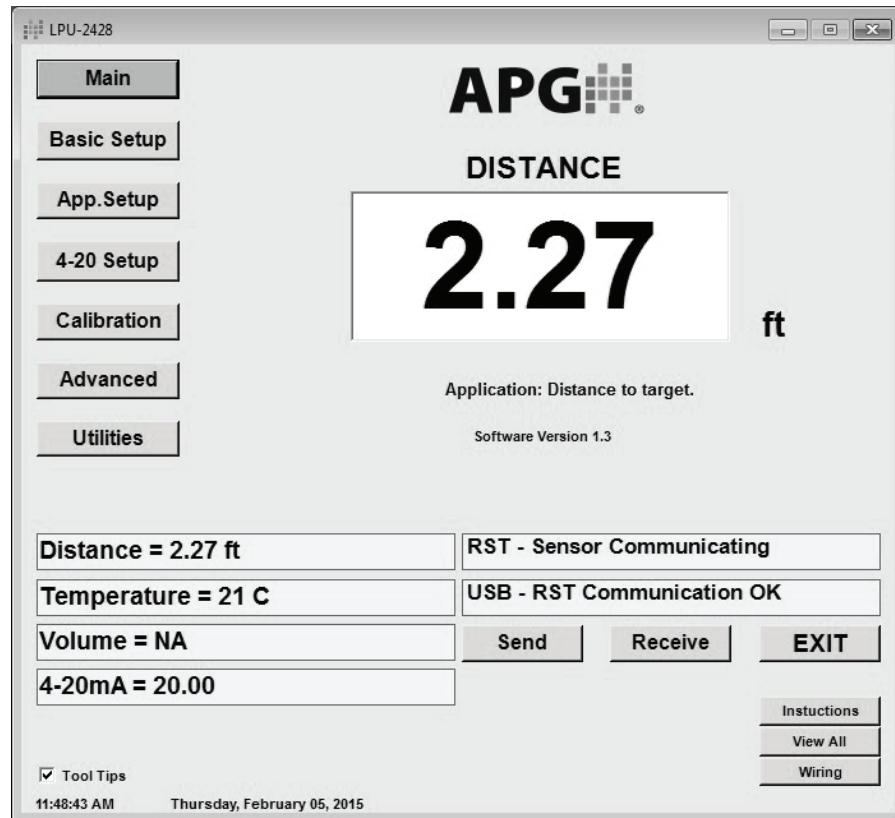
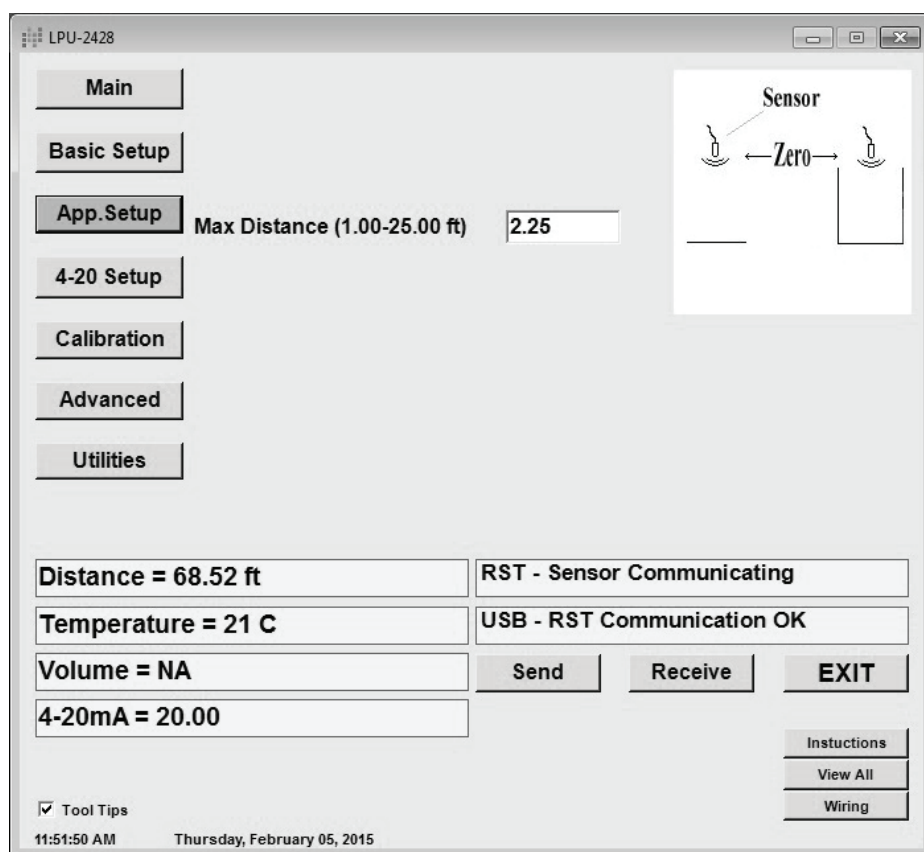

Figure 4.2
Figure 4.5
The LPU-2428 software user interface is one screen with five primary areas (See Figure 4.2). In the upper left are seven Menu Buttons. These buttons control the information viewed in the Display Area. Below the Menu Buttons and Display Area are six Status Boxes in two columns. Under the right hand column of Status Boxes are three Control Buttons. Three Help Buttons are located in the lower right hand corner of the screen.
*Application (Out Func)* on the RST-4001) selects the measurement function of LPU-2428. Parameters for each application are configured in the App. Setup (APPLICAT) menu (See Figure 4.5). The selected application is displayed on the Main Screen under the measurement (See Figure 4.2).
*Max Distance* (*Max Dist* on the RST-4001) sets the maximum operating range for the LPU-2428. 25 feet is the physical limit of the LPU-2428. (See Figure 4.5)